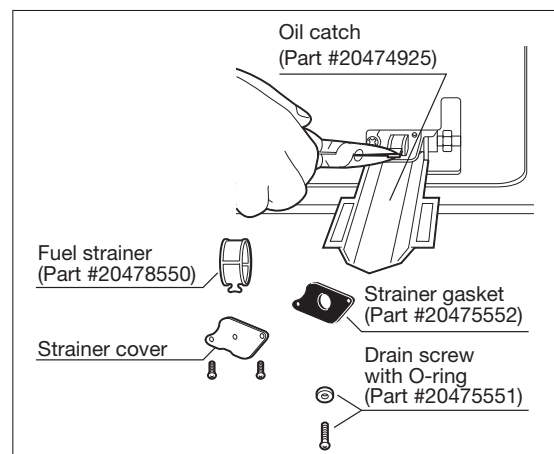

Figure 4-1 CLEAN FUEL INLET STRAINER
- C. To drain the upper portion of the fuel sump, carefully loosen the drain screw, there is no need to remove (Phillips head screw) which is located to the left of strainer cover. (See Fig. 4-1.)